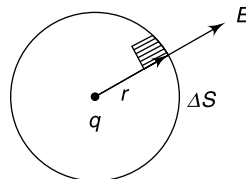

Fig. 2.17 (+ q) charge is placed at the centre of a sphere (Ex. 2.10)
2.10 A charge q is placed at the centre of a sphere (Fig. 2.17). Taking the outward normal as positive, find the flux of the electric field through the surface of the sphere due to the enclosed charge.